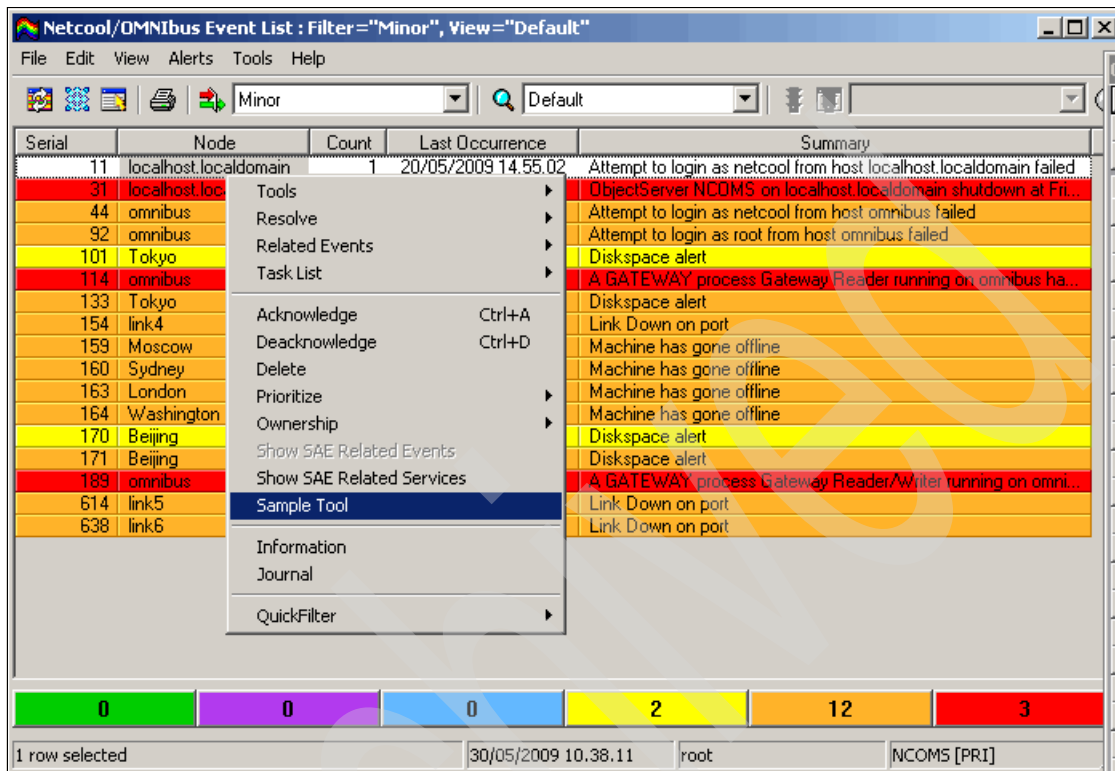

Figure 4-33 Event list tools
4. Check that the new item has been created in the active event list (AEL), as shown in Figure 4-33.